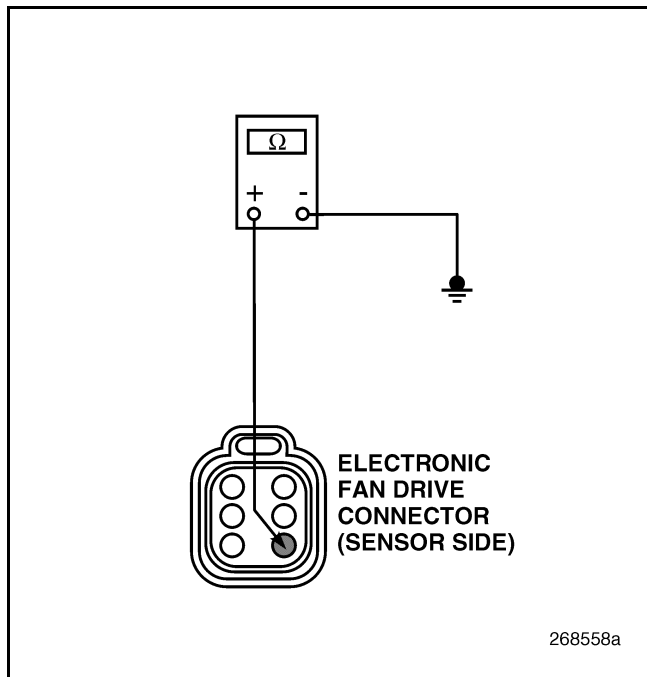

Figure 123
4. Check for continuity between the sensor side of electronic fan drive connector pin 3 and a good ground (see Figure 123).